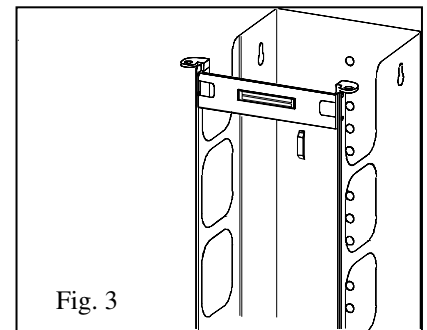

Fig. 3
To secure the *Copper / Fiber Manager Rack* to the floor, drill holes as per the pattern shown in Fig. 3.
- C. Attach one *magnet bracket* to the studs at the top of the *Vertical Cable Manager*, using the #6-32 acorn nuts. See figure 3. Attach the lower *magnet bracket* in the same manner.